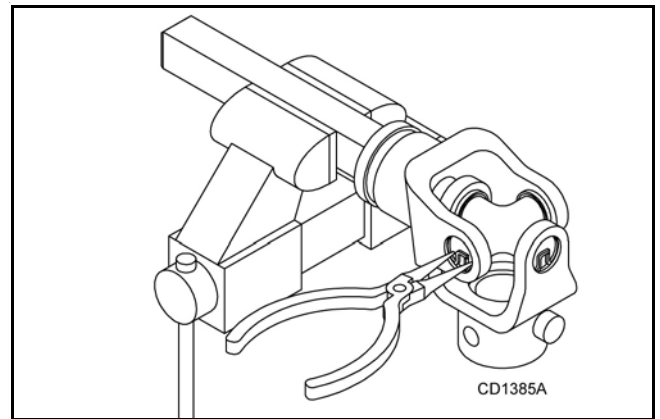

Figure 21.
1. Remove external snap rings from yokes in four locations as shown in Figure 21.